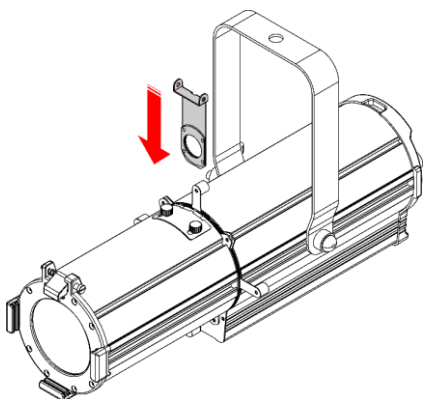

Fig. 18
- 04) Change the gobo in the **gobo holder (08)**. See 5.3.1. **Changing the Gobo** on page 19 for more information.
- 05) Insert the **gobo holder (08)** back into the gobo slot (see Fig. 18).